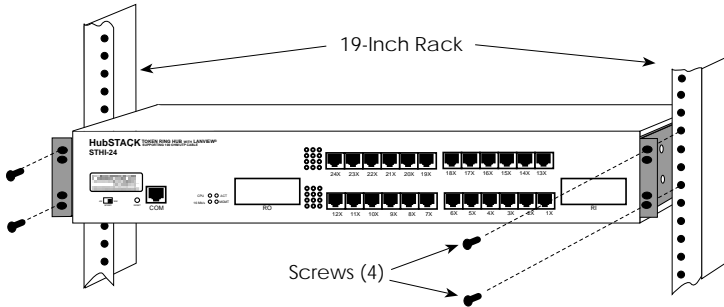

Figure 3-3. Installing the STHI in a Rack
3. With the mounting brackets installed, position the STHI between the vertical frame members of the 19-inch rack and fasten it securely with the mounting screws as shown in Figure 3-3.